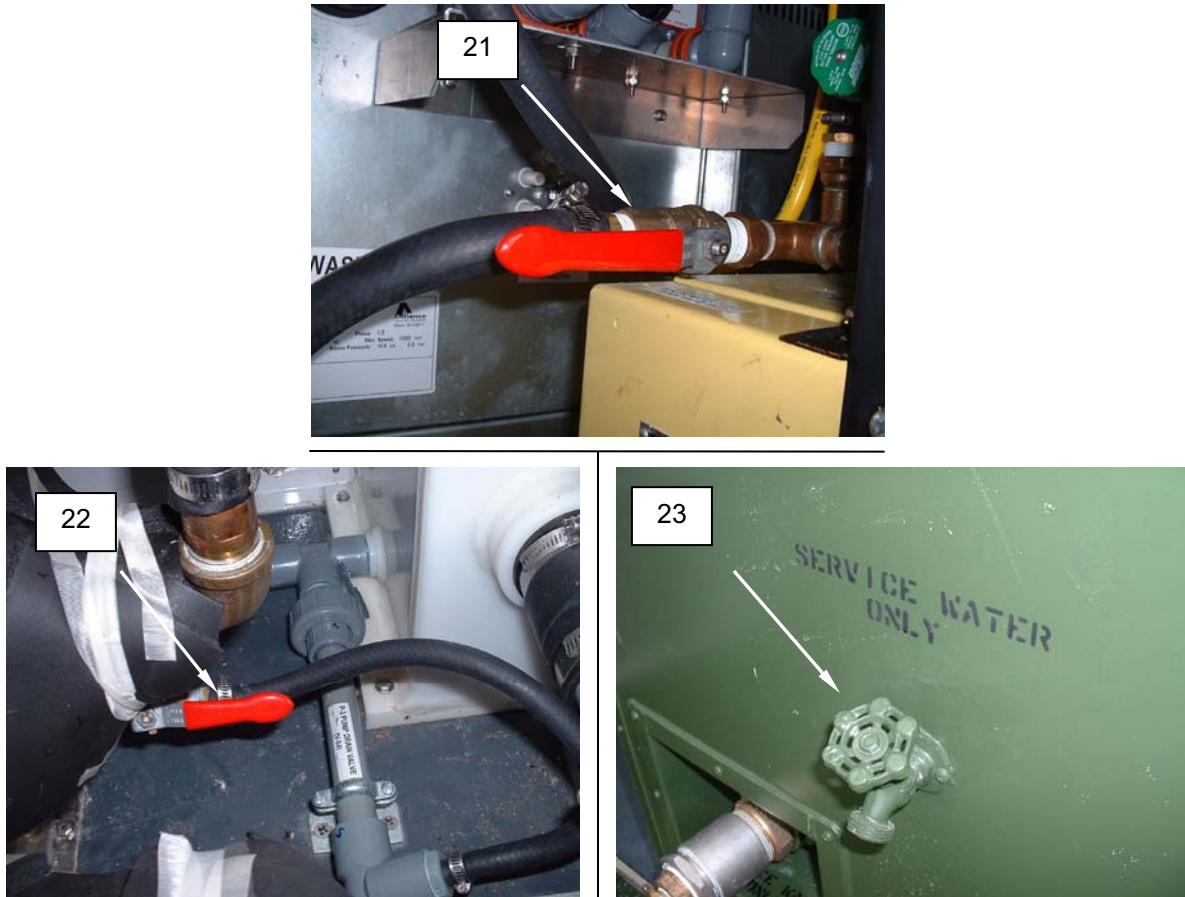

Figure 19. Drain System.
22. Open the boiler water outlet drain valve V-37 (Figure 19, Item 21), the P-3 Pump drain V-54 (Figure 19, Item 22) and the water spigot (Figure 19, Item 23).